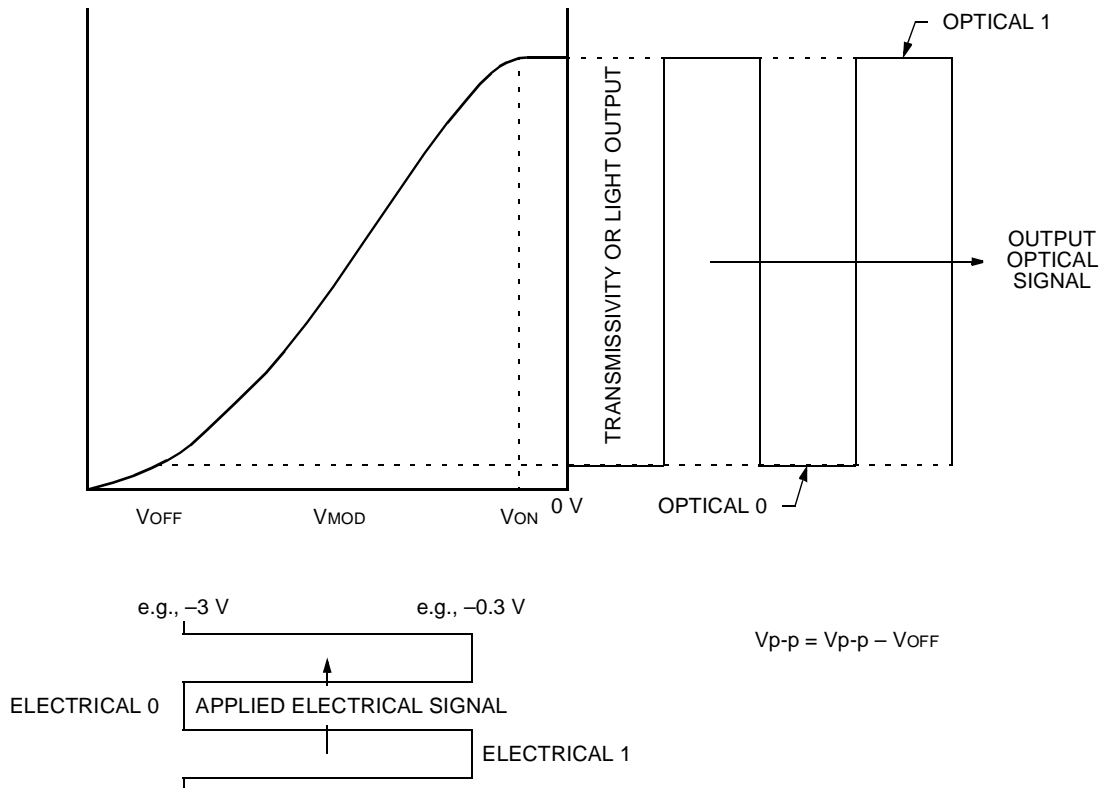

Figure 2. Light Versus Applied Voltage (Transfer) Characteristic of the Modulator
- Referring to Figure 2 if necessary, adjust the voltages applied to the modulation section to the values shown in Table 1.
Further improvements in performance can be achieved by optimizing the applied voltage to the modulator for the specific application. As may be seen in Figure 2, reducing the on-state voltage (i.e., the voltage level corresponding to the electrical one), while typically offering the benefit of reducing the dispersion penalty, also reduces the output power. The optimum trade-off between the two will depend on the system design. For example, in a system where the EML is followed immediately by a booster EDFA, power is not at a premium, and system dispersion can be further improved by reducing the on-state voltage from the values shown in Table 1. Operating the modulator with a positive on-state voltage is not recommended because it adversely affects the dispersion performance.
Figures 3A—3D show four modulation scenarios for the EML modulator. In each case, an electrical signal is applied to the X axis (modulation voltage) and an optical signal is produced on the Y axis (light output), as introduced in Figure 2.